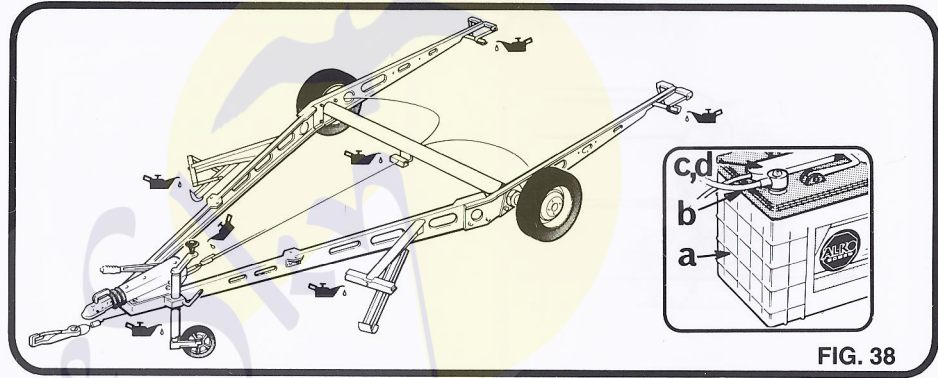

FIG. 38
**Lubrication (Fig. 38)****2.8 Lubricate the Jockey Wheel**
**2.11 Service the Battery (Fig. 38)**